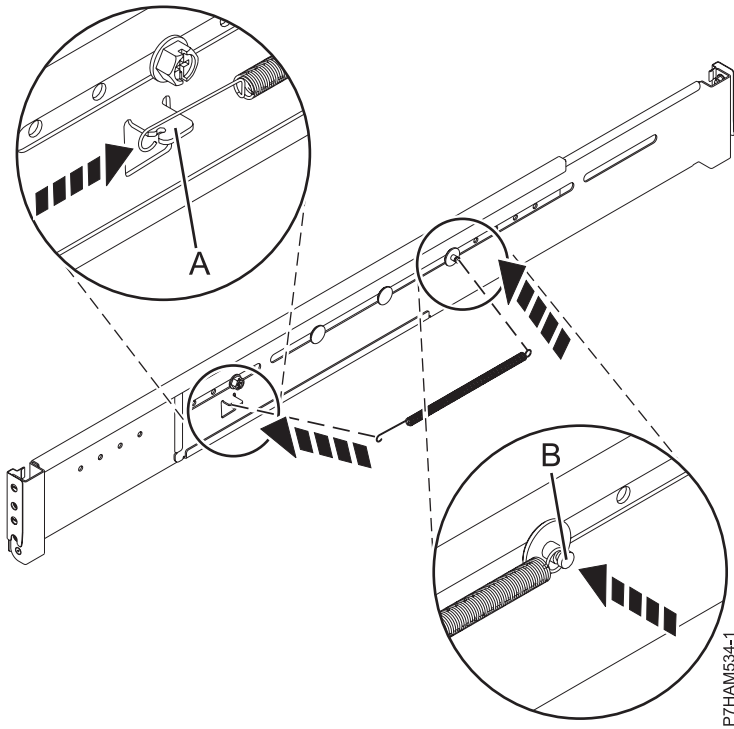

Figure 3. Installing the spring to the rail
3. Install the spring to the rail by hooking one end to the spring bracket (**A**) and the other end around the circular standoff (**B**) as shown in Figure 3 on page 5.